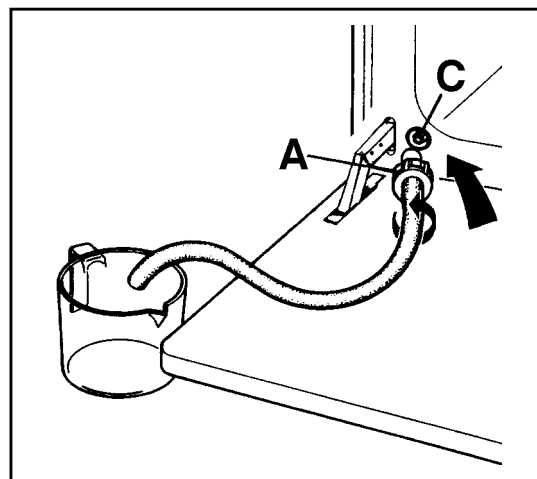

Fig. 17
- Open the oven door (Fig. 17) and fit the connector (A) into the exhaust-valve (C) located in the lower left hand corner of the oven cavity frame.